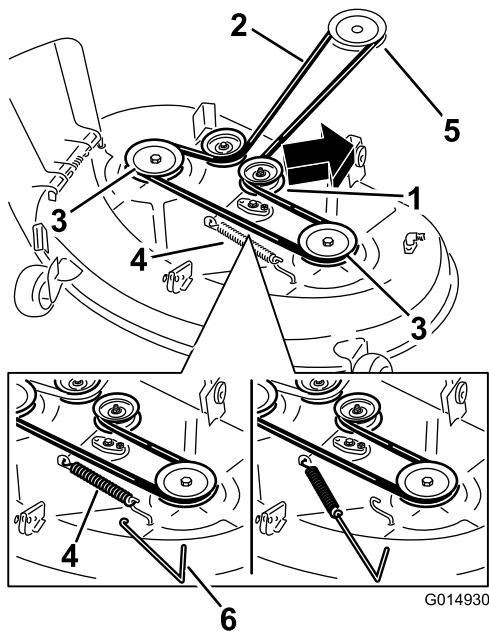
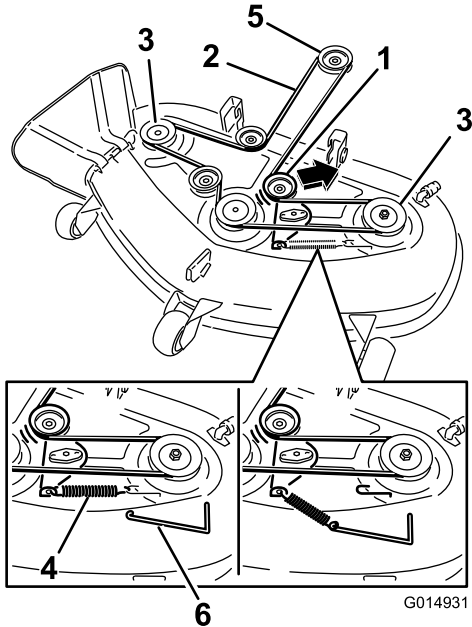

Figure 47
Figure 48
roll the belt off the pulleys (Figure 47 or Figure 48).
- Route the new belt around the engine pulley and mower pulleys (Figure 47 or Figure 48).
- Using a spring-removal tool, install the idler spring over the deck hook, and place tension on the idler pulley and mower belt (Figure 47 or Figure 48).